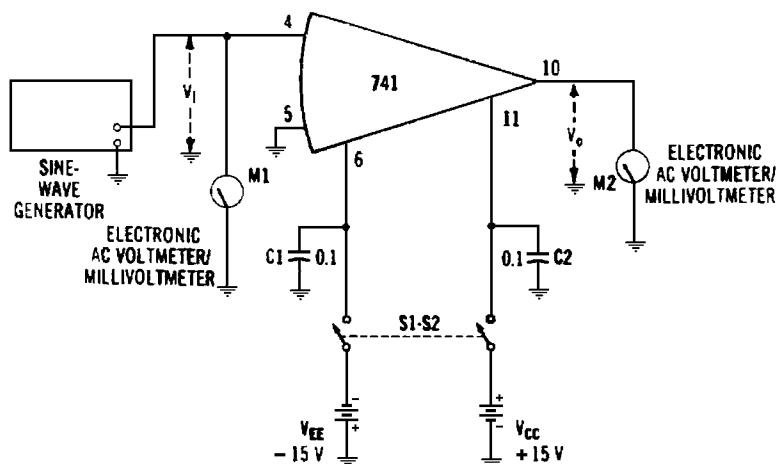

Fig. 2-17. Unity-gain frequency.
#### Required Equipment (Fig. 2-17)
1. With switch S1-S2 open and the generator off and its attenuator set to zero, set up the test circuit as shown in Fig. 2-17. (In this circuit, the IC runs "wide open" and is "touchy." Keep all leads short and direct.)